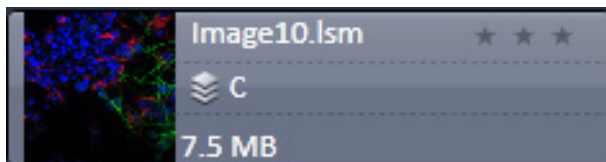

Fig. 641 2 Ch. Z-Stack image
- Example of a 2 Ch. Z-Stack displayed with a small thumbnail in the **Open Images** section (Fig. 641).